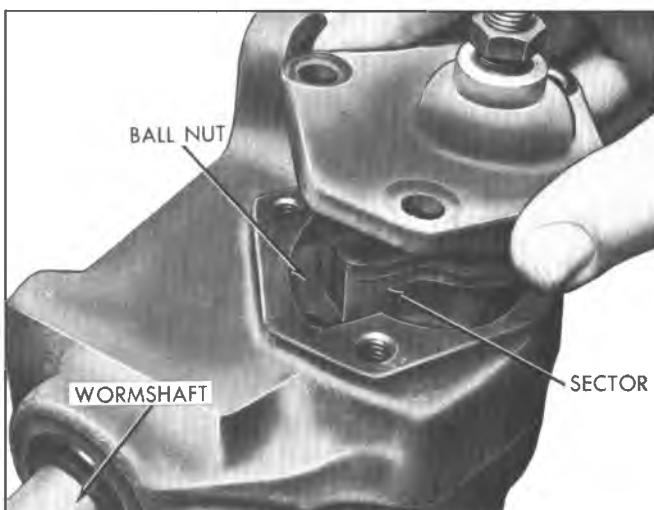

Fig. 5--Removing Pitman Shaft Assembly-Typical
4. Tap lightly on the end of the pitman shaft with a plastic hammer and lift the side cover and pitman shaft assembly from the gear housing (fig. 5).